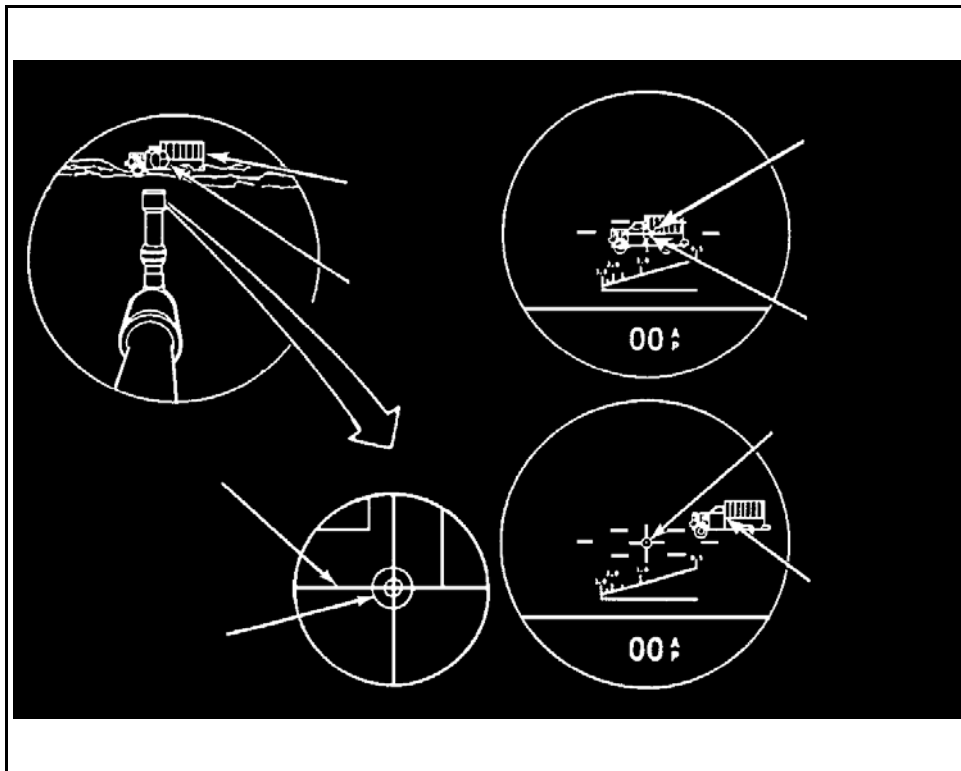

Figure 7. Alignment.
(2) Turn the EL knob to align the elevation cross hair of the gun reticle on the aiming point of the target (Figure 7).
(3) Turn the AZ knob to align the azimuth cross hair of the gun reticle on the aiming point of the target (Figure 7).